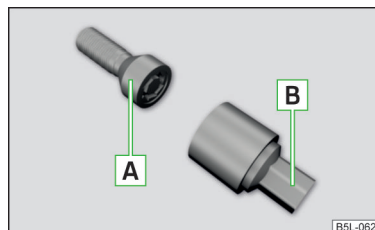

Fig. 203
The anti-theft wheel bolts protect the wheels from theft. These can only be loosened or tightened with the use of adapter **B** » Fig. 203.
- Insert adapter **B** » Fig. 203 with the toothed side all the way into the inner teeth in the head of the anti-theft wheel bolts **A**.